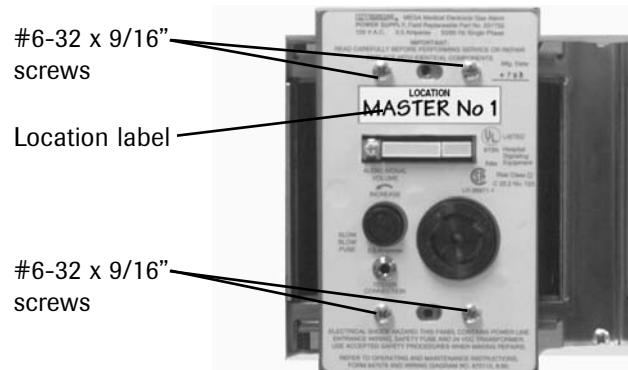

Figure 11
5. Install the power supply module chassis in the mounting box and secure with (4) #6-32 x 9/16" screws. Refer to **Figure 11**.
6. Install the location label. Refer to **Figure 11**.